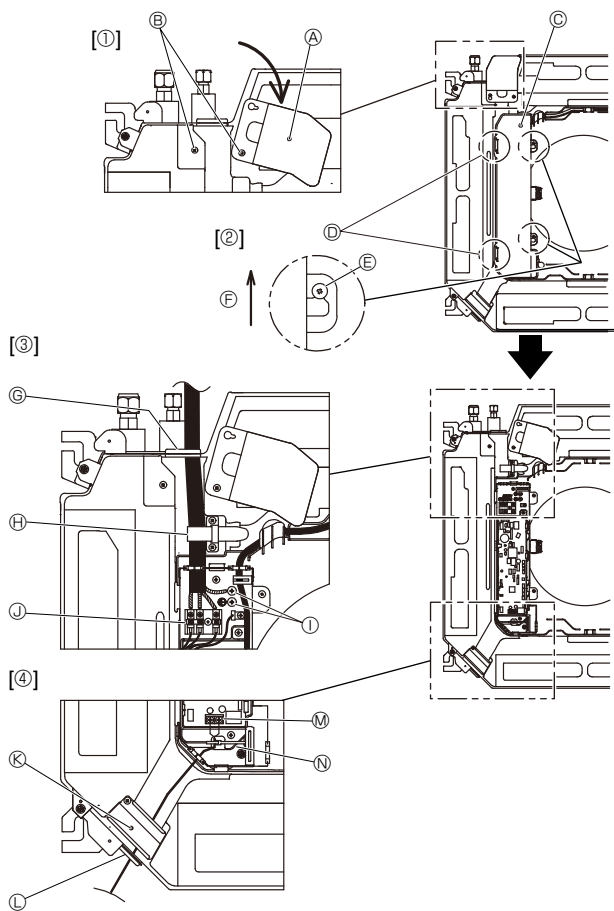
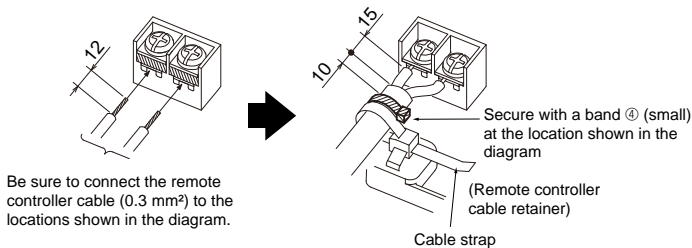

Fig. 6-1
Fig. 6-3
6.1. Indoor unit (Fig. 6-1)
- Loosen the two screws securing the electrical wiring service panel, and then turn the electrical wiring service panel. [Fig. 6-1 ①]
- Loosen the two screws securing the electrical box cover, then slide the electrical box cover. [Fig. 6-1 ②]
- Pass the power cable, indoor/outdoor unit connecting cable and earth cable through the wiring entries given in the diagram. [Fig. 6-1 ③]
If you cannot use round crimped terminals, following the procedure in Fig. 6-3 to 6-6.
- Pass and wire the remote controller cable through the wiring entries given in the diagram. [Fig. 6-1 ④, Fig. 6-3]